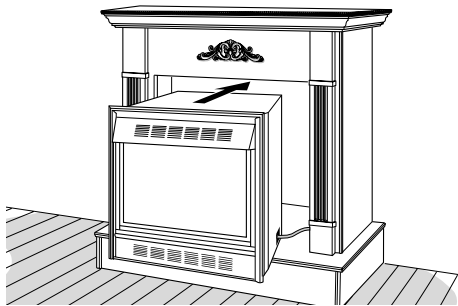

Figure 25 - Inserting Fireplace Into Cabinet Mantel
12. After heater is secured, replace mantel on hearth base (see Figure 25). Make sure mantel is flush against wall. Install brass trim (see page 7).